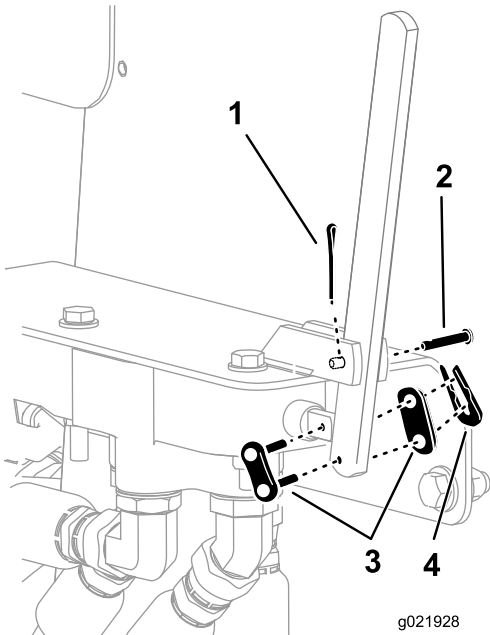

Figure 10
5. Place the hydra-borer-control lever between the guide on the bracket attached to the machine so that the holes line up. Secure the control lever with the link assembly and snap clip (Figure 10).
6. Secure the upper hole of the control lever with the clevis pin and the cotter pin (Figure 10).